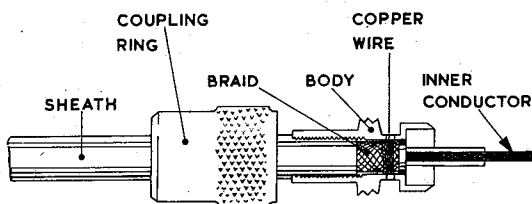

Fig. 5. Straight plug assembly for high frequencies
(3) Run solder over the layer to secure it to the braid, taking care that the dielectric is not damaged or overheated (fig. 5).
(4) Follow the instructions given in para. 18, sub-para. (4) to (6) inclusive.
(5) Follow the instruction given in para. 18 sub-para. (9) and (10).